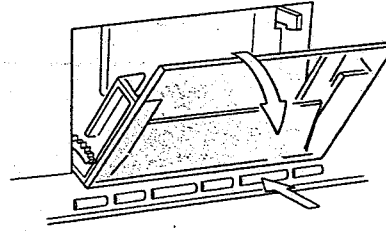

Fig. 4
1) Open the cassette lid (See figure 4)